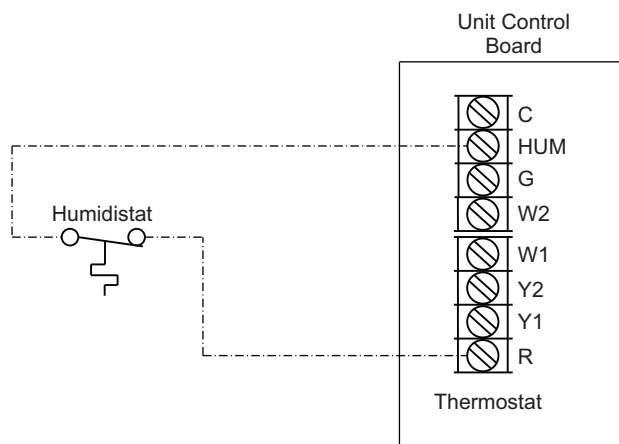

Fig. 35 — Humidistat Connections to UCB
3. Connect one of the leads from the 2-conductor cable to the HUM terminal on the UCB (Unit Control Board). Connect the other lead to the R terminal on the UCB. See Fig. 35.